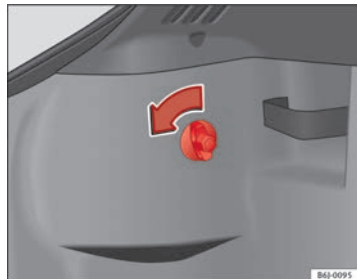

Fig. 162 Access to tail lights
- Turn the bolt in the direction of the arrow, by hand or with a screwdriver ⇒ Fig. 162.
- Remove the connector from housing (A) ⇒ Fig. 162.